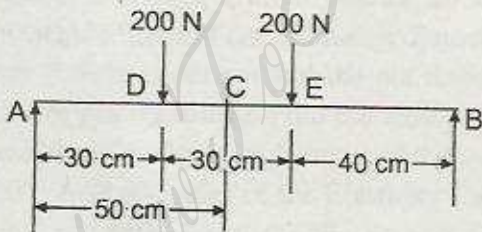

Fig. 3
7. A brass tube 100 cm long is simply supported at its ends and carries two concentrated loads of 200 N each at 30 cm and 60 cm from the left end, respectively. Find out the slope and the deflection at the points A, B, C, D and E. For the Section and the material property, take the area moment of inertia of the section $I = 5 \text{ cm}^4$ and Modulus of the Elasticity = $10 \times 10^6 \text{ N/cm}^2$. Refer Fig. 3. 20